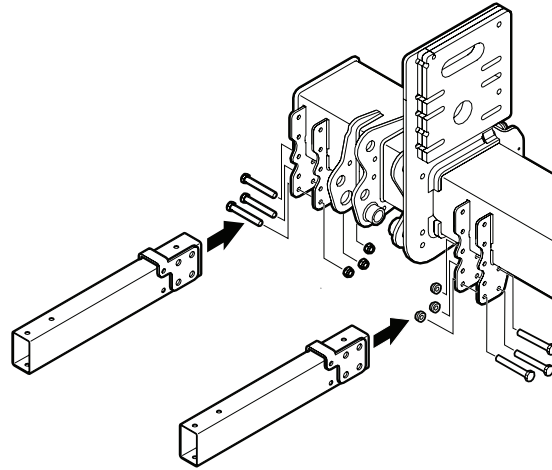

Figure 42. Installing brackets on the frame
1. Install the brackets on the tail lift frame using 3 x M12x100 bolts each, without tightening them. See Figure 42.